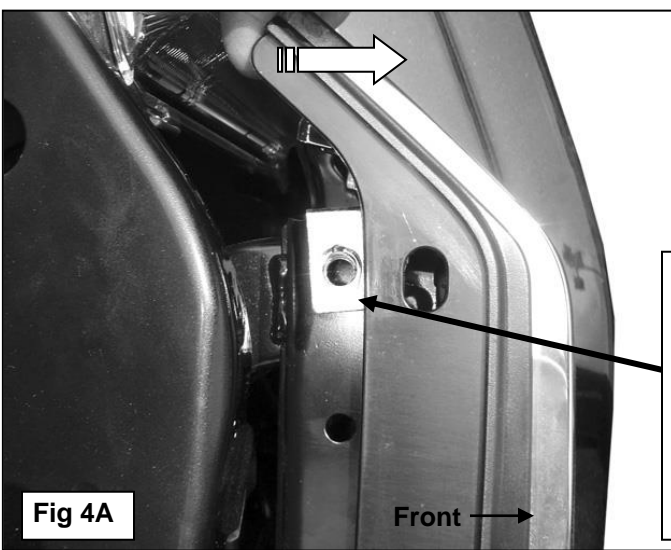

Fig 4A
09-10 Models: Gently pull the plastic grille forward to access the metal tab on the driver side of the cross-member. Select (1) 8mm Clip Nut and slide it onto the metal tab with the threaded hole below the metal tab, (**Figure 4A**). Line up the center of the Clip Nut with the hole in the metal tab and move the grille back into position. Attach the **Short Top Bracket** to the Clip Nut with (1) 8mm x 25mm Button Head Bolt, (1) 8mm Lock Washer and (1) 8mm Flat Washer, (**Figure 5**). Snug but do not tighten hardware at this time. Repeat this step for passenger side Top Bracket installation.